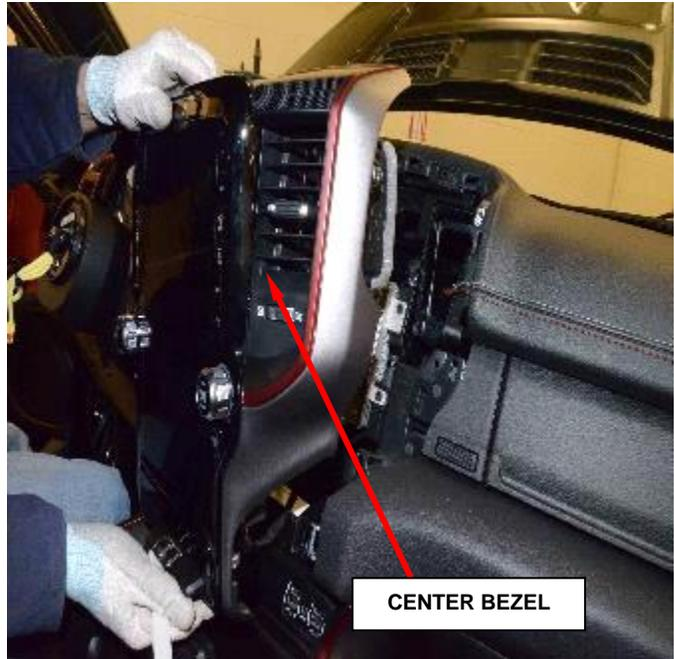

Figure 10 – Center Bezel
7. Remove the center bezel from the instrument panel (Figure 10).